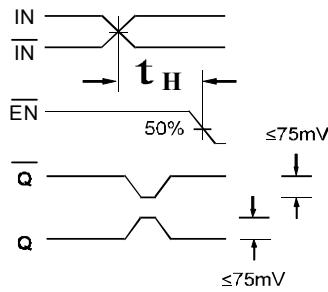

Figure 2. Hold Time
6. The hold time is the minimum time that \bar{EN} must remain asserted after a negative going IN or a positive going \bar{IN} to prevent an output response greater than $\pm 75mV$ to that IN/ \bar{IN} transition (see Figure 2).